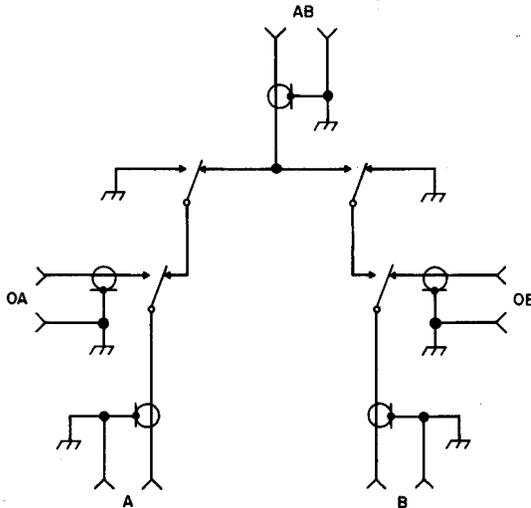
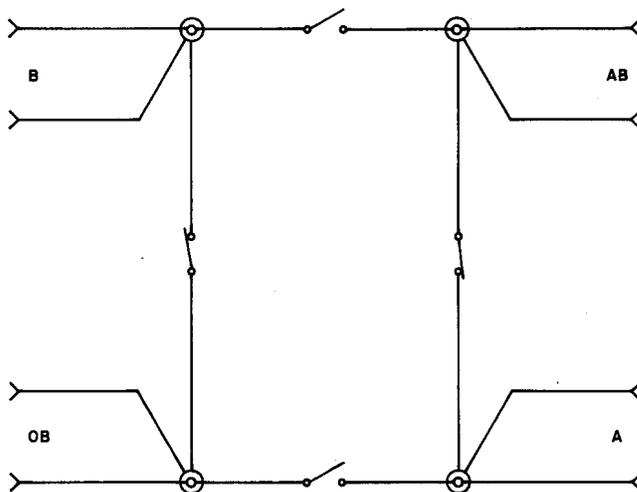

Fig. 5—223A Coaxial Switch Schematic Shown in Normal (Released Condition)
Fig. 6—223E Coaxial Switch Schematic Shown in Normal (Released Condition)
1.04 There are two separate transmission paths through the switches. In all switches, with the switch normal, the paths are path A to AB and path B to OB. With the switches operated, the paths for the 223A, 223B, and 223C switches are path A to OA and path B to AB. See Fig. 5. For the 223D and 223E switches, these paths are path A to OB and path B to AB. See Fig. 6.